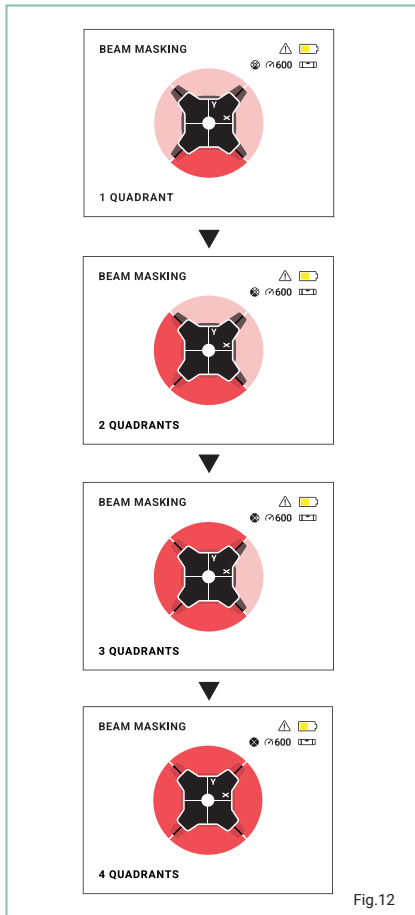

Fig.12
- Pressing the **speed control / beam masking button** sequentially will change the active quadrants as follows: 1, 2, 3, 4 (Fig.12). When the active beam quadrants have been set, the following icon will be displayed on the LCD screen on the laser level and remote control: